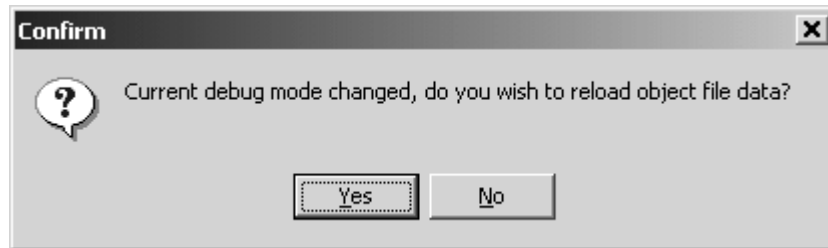

Figure 4-34: Confirm Window
10. Click Yes in Confirm window. (**Figure 4-34**)